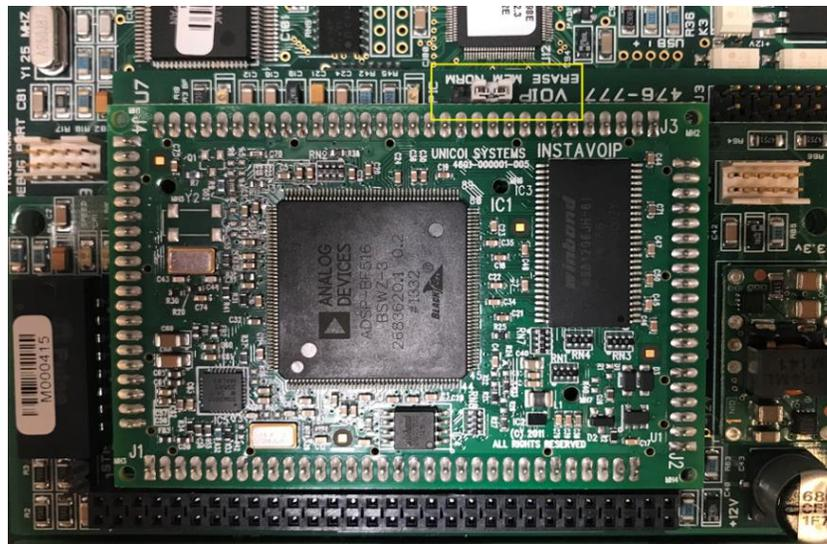

Figure 9-1: Location of reset jumper on VoIP module.
3. There is a white jumper that is currently on “MEM” and “NORM”. This can be seen in the Figure 9-1. Move the jumper to “ERASE” and “MEM”. ***Some older modules were made without the jumper pins. If you have one that does not have a jumper, refer to Section 9.2 How to Reset the VoIP Interface to Have Default Settings through the Webpage to reset to default settings.***